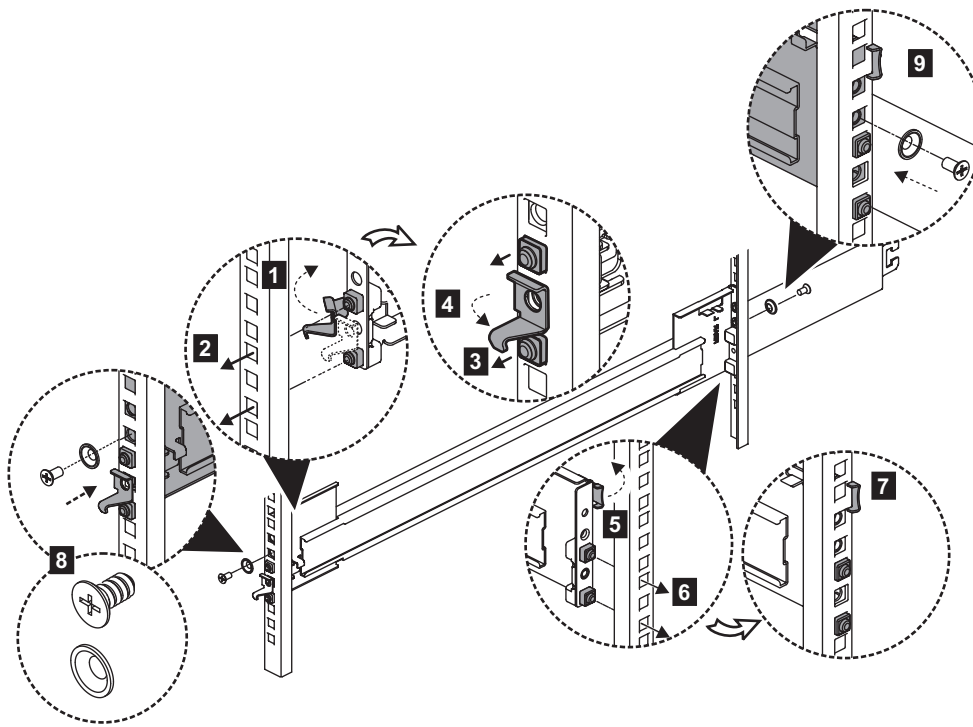

Figure 21. Install the bracket assembly to the frame
7. Install the outer section of the rail to the rear frame, as shown in Figure 21 on page 20.